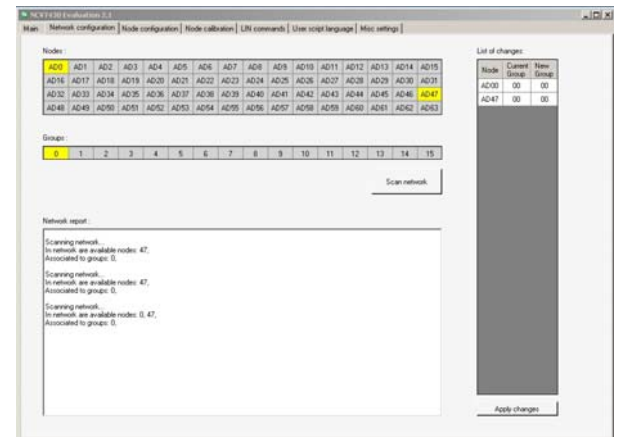

Figure 15. The New Board in the Daisy Chain Should Appear
11. Select the Network configuration tab. Click the Scan network button. The new board in the daisy chain should appear (AD0). (see Figure 15)